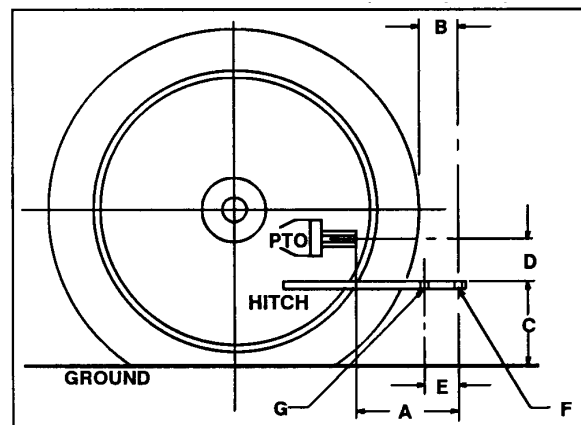

Figure 6
4. If the hole spacing is short (coring speed too fast), increase spacing: replace driver gear with gear having less teeth and driven gear with gear having more teeth (Fig. 6). If the hole spacing is long (coring speed too slow), increase the driver gear teeth and decrease driven gear teeth quantities; see the gear selection chart.